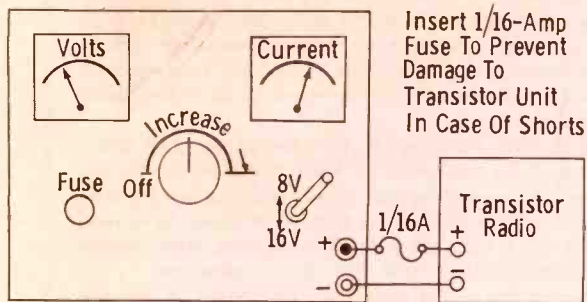

Fig. 1. Use of a 1/16-amp fuse helps to protect the transistor radio under test.
During a subsequent test, the positive lead from the power supply shorted to one lead of a miniature electrolytic, ruining the capacitor and blowing a 1" section of foil on the printed board. Having learned the hard way, two precautionary measures were taken to prevent a recurrence: (1) a 1/16a fuse was inserted in the positive lead from the power supply (Fig. 1), and (2) insulated alligator clips were installed on the power supply leads.